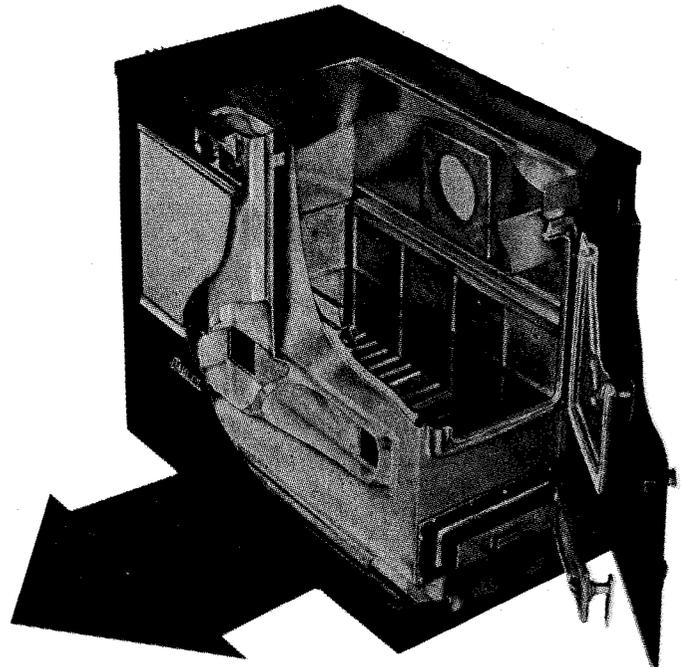

Fig. 22. Cutaway view of Ashley circulating heater, showing interior construction.
1. **Ashley Products Divison** (manufacturer), Martin Industries, P.O. Box 730, Sheffield, AL 35660. See Fig. 22 and Table 3. Cabinet has gold accent trim and gold mesh grill. Automatic blower is optional, as is patented "draft equalizer." Model C-60 holds 100 pounds of wood, the C-62, 50 pounds at one filling. Downdraft system preheats primary air and distributes it through two intake ports at the level of the grates. Secondary-air intake is automatic and near flue collar. Large ash drawer is accessible through the double-wall cabinet door.